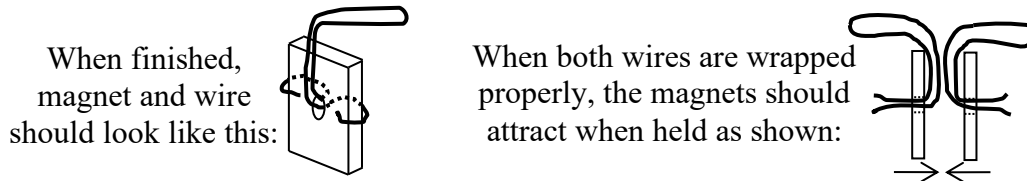

Fig. 2: Magnets with wires correctly wrapped
- When completed properly, the two magnets should be able to stick to each other with the looped parts of the wire facing in opposite directions as shown in Fig. 2 on the next page. If this is not the case, remove the wire from one of the magnets, reinsert it in the other direction, and repeat Step 3. Consult your instructor if you are having difficulties.